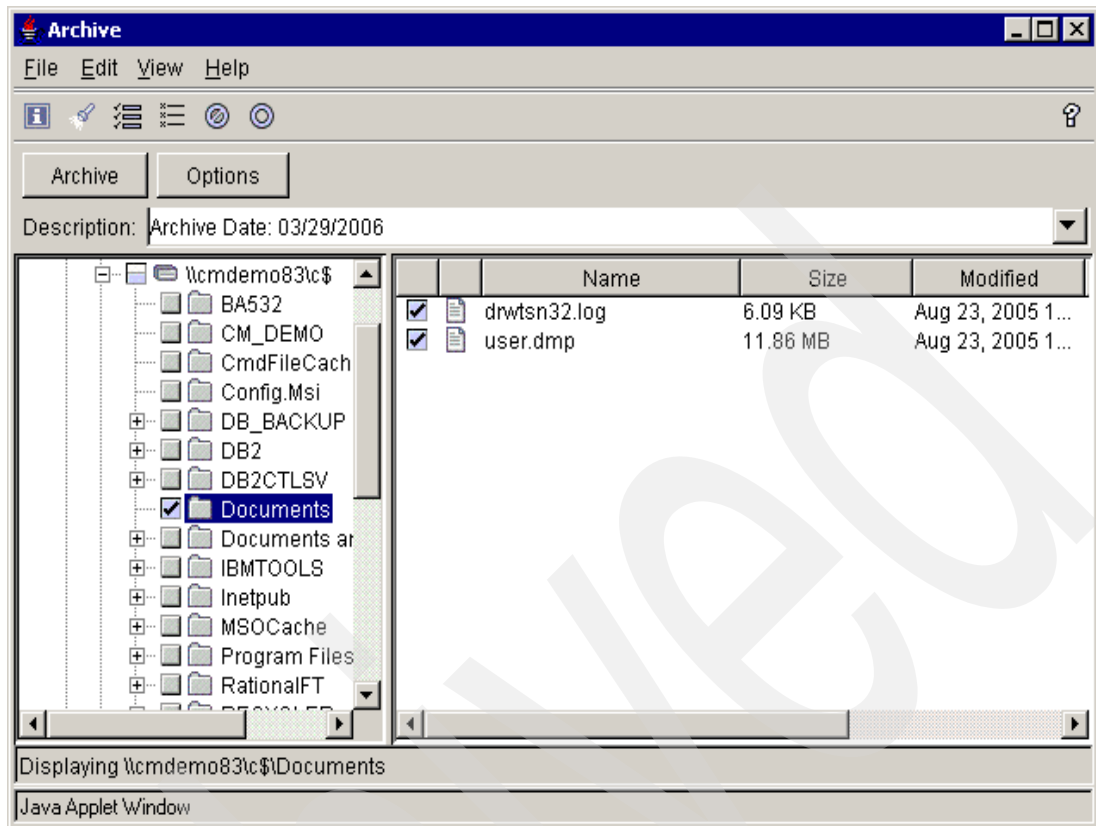

Figure 5-34 Test files archived to test Chronological Archive
1. Launch the Web Client from a Web browser by entering the URL `http://BAclient_IP:1581`, where BAclient\_IP represents the address of the BA client and select some files you would like to archive, as shown in Figure 5-34 on page 209.